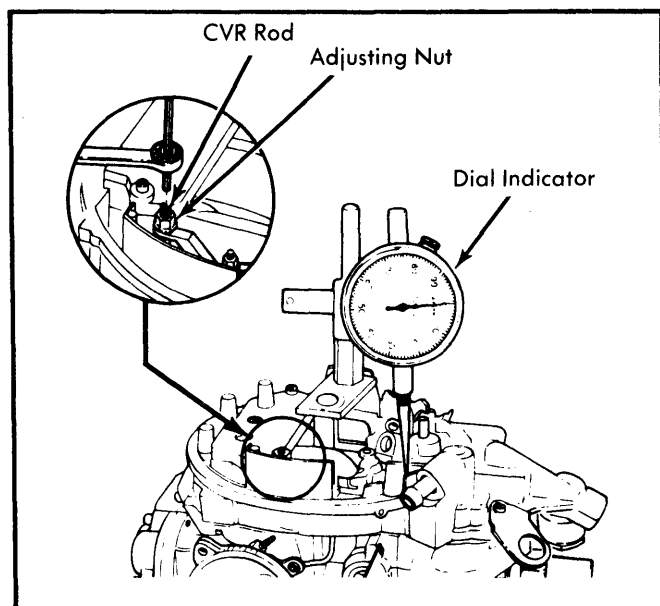

Fig. 6 Adjusting Control Vacuum Regulator
6) Using a $\frac{3}{32}$ " Allen wrench, turn the control vacuum rod counterclockwise to increase travel and clockwise to decrease travel. When adjustments are complete, apply epoxy sealer to adjusting nuts and stop screw. See Fig. 6.